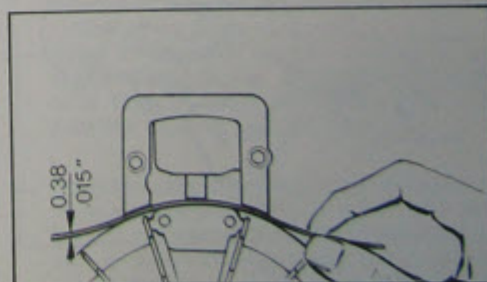

Fig. 28 Air gap adjustment
- Place a 0.38 mm gauge or metal strip of at least 100 mm in length across the magnets. (Fig. 28)